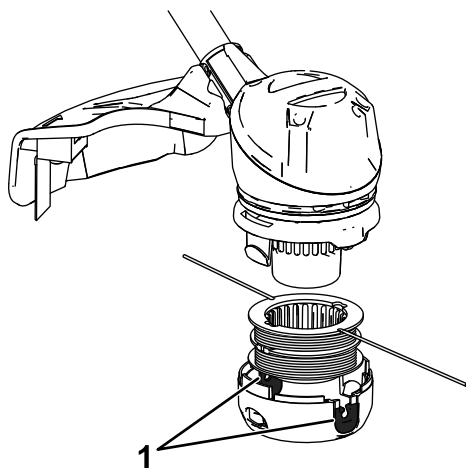

Figure 18
8. Install the spool into the cover and route the ends of the string through the holes in the cover as shown in Figure 18.